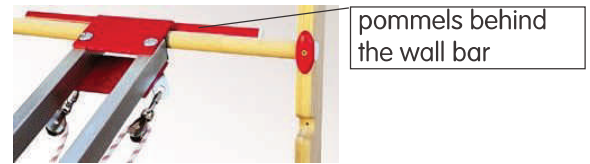

Figure 8
Adjust the slant of the strength training bench by setting the hand-rail plate (5) onto a wall bar, as shown by Figure 8. Do not use the wall bars located above 1.25 m (4.1').